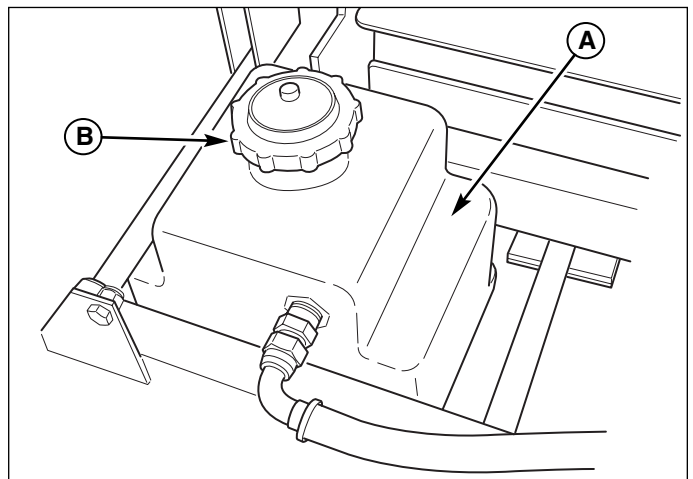

Figure 6. Hydraulic Oil Reservoir
1. Visually check that the hydraulic oil level is filled to the recess area (A, Figure 6) of the hydraulic oil reservoir.
3. If necessary, remove the reservoir cap (B, Figure 6) and add either Mobil 1™, 15W-50 synthetic oil or Castrol Syntec™ 5W-50 oil. **DO NOT** use conventional oils. Make sure area around the filler neck is free of dust, dirt, or other debris.